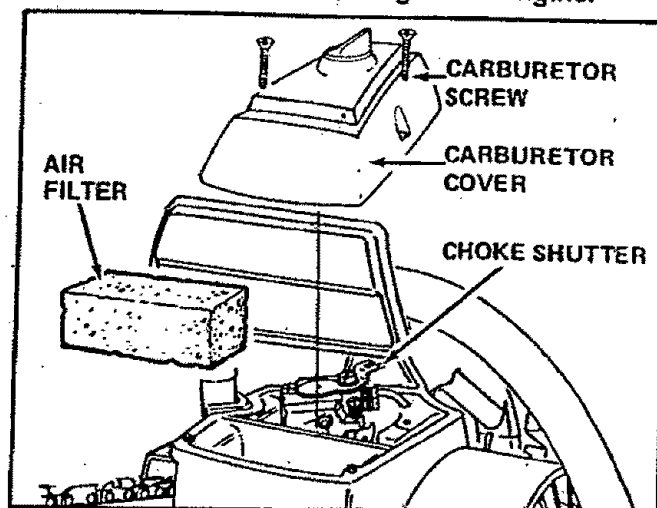

Figure 45
2. Remove the carburetor cover screws and carburetor cover. Figure 45.
10. Check the choke shutter to be sure it is closed. Figure 45.